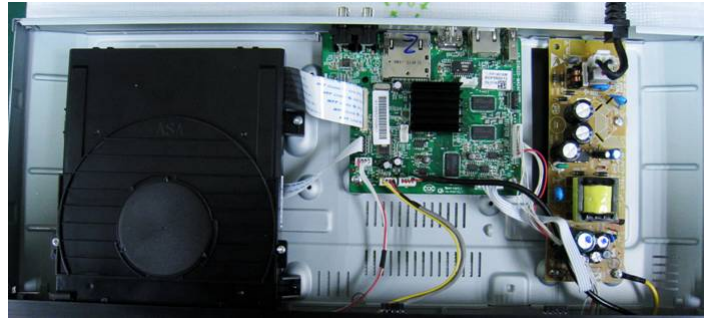

Figure 1
Step1: Remove 4 screws around the Top Cover, and then remove the Top Cover (Figure 1).